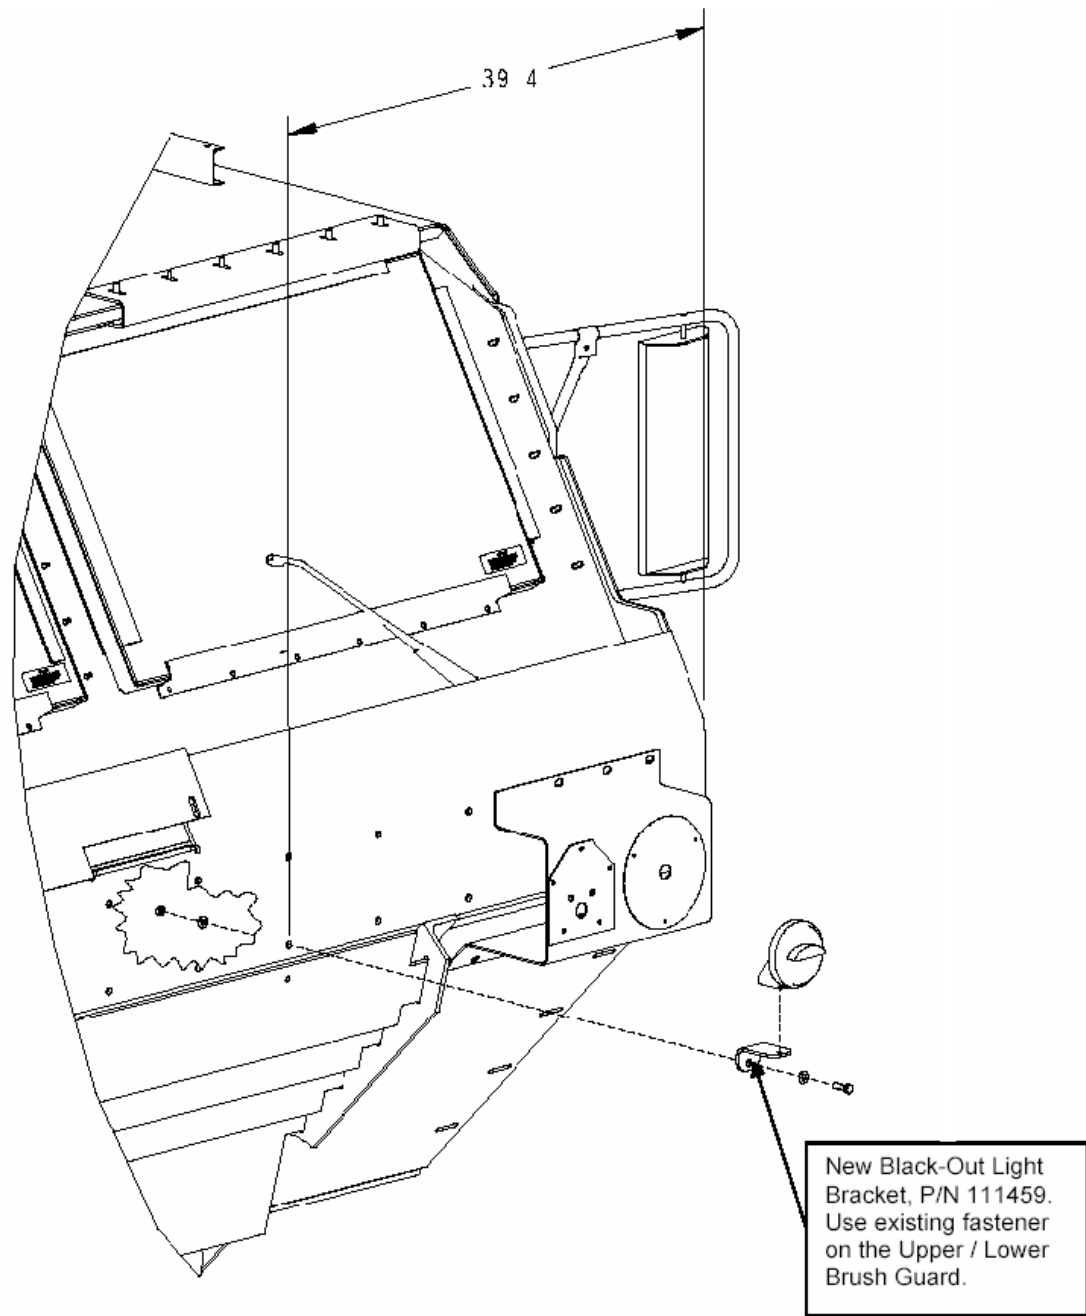

Figure 46. Blackout Light installation.
a. Remove the Blackout Light from the old bracket and install it in the new bracket, (P/N 111459-1), using the same hardware (see Figure 46).